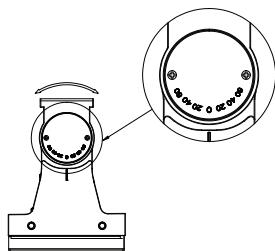
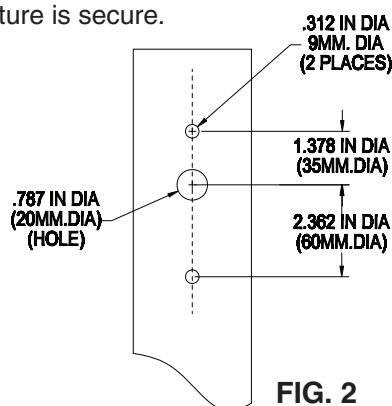
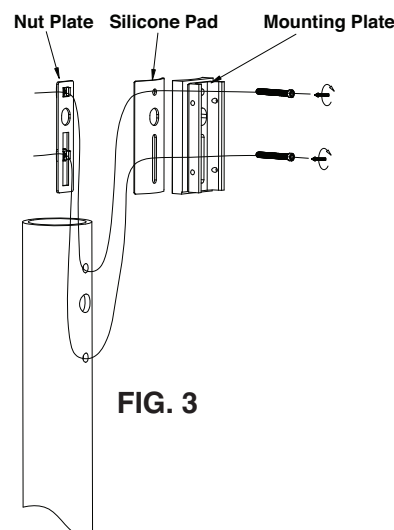

FIG. 1
FIG. 2
FIG. 3
This fixture can be mounted to a pole with an adapter mounting plate that is included. The flexible arm can be aimed 0 to 60° both upward and downward in 20° increments (see **FIG. 1**). The mounting plate has a slot pattern that will cover many existing hole patterns on poles, install in accordance with **FIG. 3**. If there is no existing hole pattern or the holes are outside of the slot range on the pole, drill holes according to the pattern in **FIG. 2**.
1. Tighten the nut plate and adapter on the pole. (See **FIG. 3**)
This fixture can be mounted to a pole with an adapter mounting plate that is included. The mounting plate has a slot pattern that will cover many existing hole patterns on poles, install in accordance with **FIG. 3**. If there is no existing hole pattern or the holes are outside of the slot range on the pole, drill holes according to the pattern in **FIG. 2**.
1. Tighten the nut plate and adapter on the pole. (see **FIG. 3**)